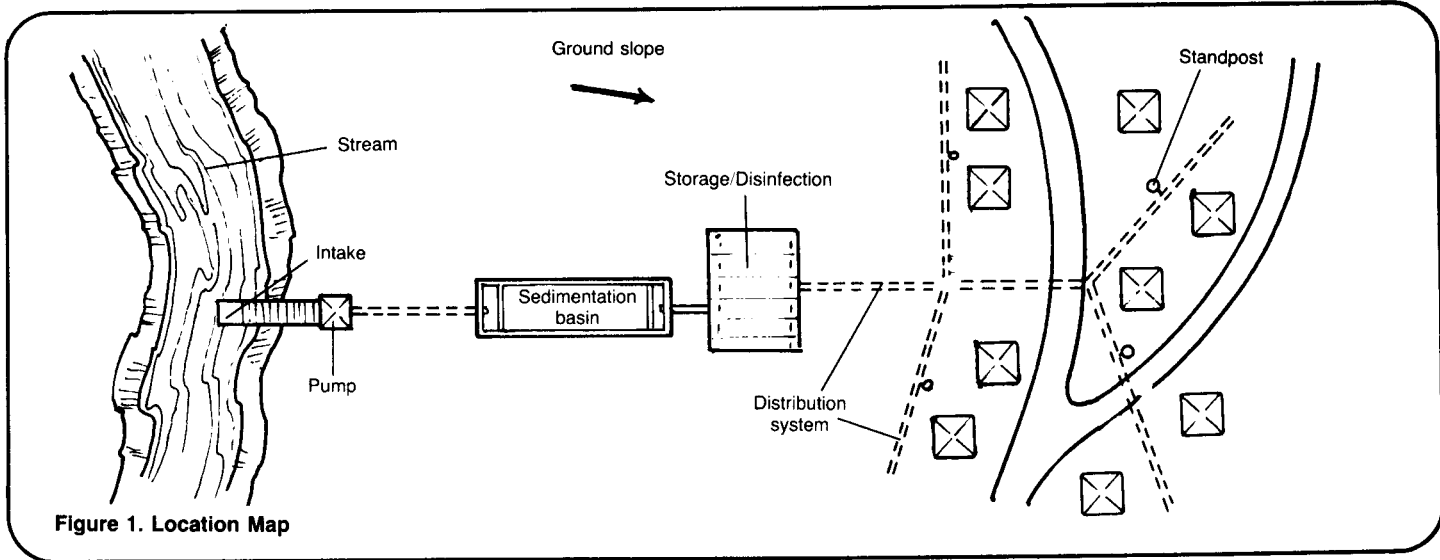

Figure 1. Location Map
1. A map of the area marked with the location of the water supply, the proposed sedimentation basin and other treatment units that may be included. The map must show major landmarks and distances. Figure 1 shows a sample location map.